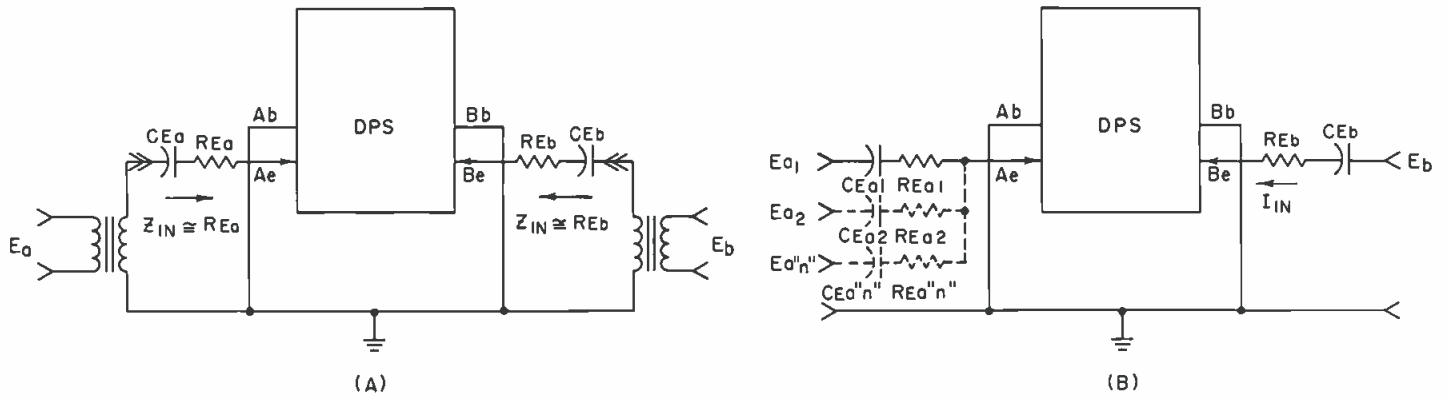

Figure 6. (A) A common base signal input transformer coupled and (B) rc coupled, A channel with mixing option.
Options of operation are available in this configuration also, as shown in FIGURE 6. The simplest would be a transformer input such as 6(A). Note that this must be rc coupled to Ae and Be to prevent shorting the 0.7 volt V_{be} . This type of input stage may also be simultaneously used for a summing stage by taking advantage of the naturally low Z_{in} of a transistor junction. In 6(B) a number of Ch A signals may be simultaneously summed and then be switched as a single composite signal. As with op-amp summers, this has the advantage of high level (and good s/n) summing and low cross coupling.